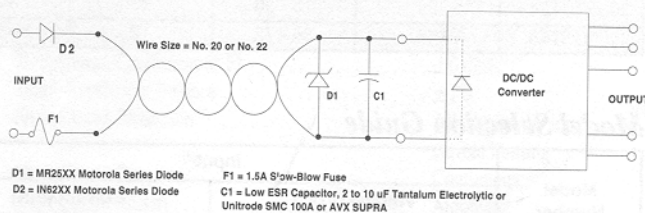

Figure 2
3. For further protection, it is recommended that an external, slow-blow line fuse be connected to the converter input lines. See the application note "Input Line Protection", Figure 2.
Input Line Protection; Overvoltage and Reverse Voltage: Although the 2000/2500 series includes internal protection circuits, it's recommended the user connect a IN62XX type diode and a slow-blow fuse as shown in Figure 2.